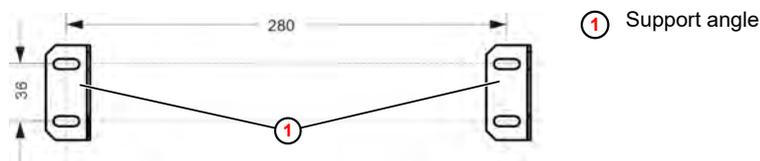

Fig. 7: Preparing for assembly
1. ➤ Prepare the bracket as specified in Fig. 7 .
2. ➤ Mount the support angle ① on the wall or dishwasher.